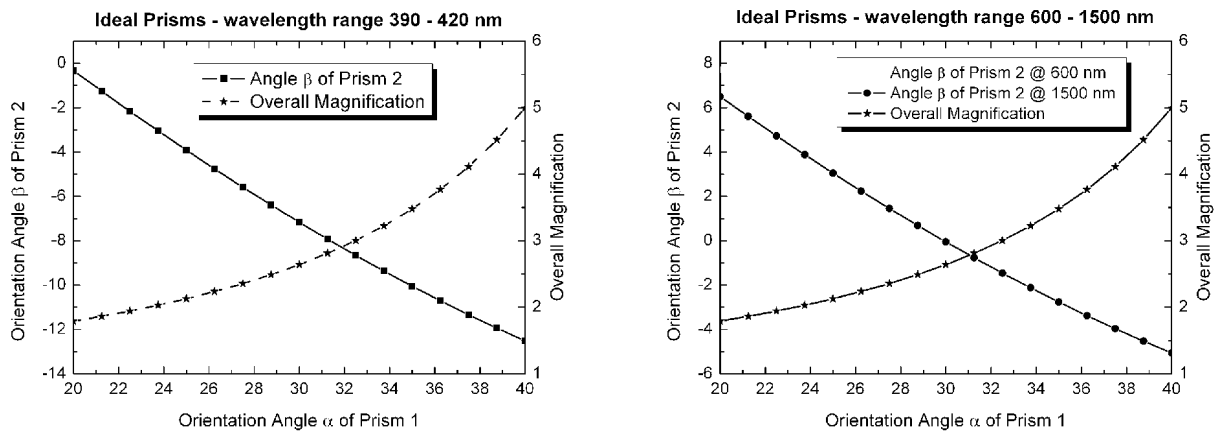

Figure 2 Angle and Magnification values of ideal prism for wavelength range between 390 nm and 1500 nm.
For an estimate Figure 2 shows the theoretical dependence of overall anamorphic magnification and orientation of prism 1 for a wavelength range of 390 - 1500 nm.
NOTE ! The values given in Figure 2 are calculated for ideal prisms and a wavelength range of 390 - 1500 nm. Different wavelengths lead to slightly different dependences and production tolerances can lead to deviations.
- 2.3 Choose the desired magnification and determine the orientation of Prism 1 e.g. by the help of Figure 2.
As an estimate Figure 2 shows calculated angular orientations of Prism 2 as a function of the orientation of Prism 1 for a wavelength range of 390 - 1500 nm.